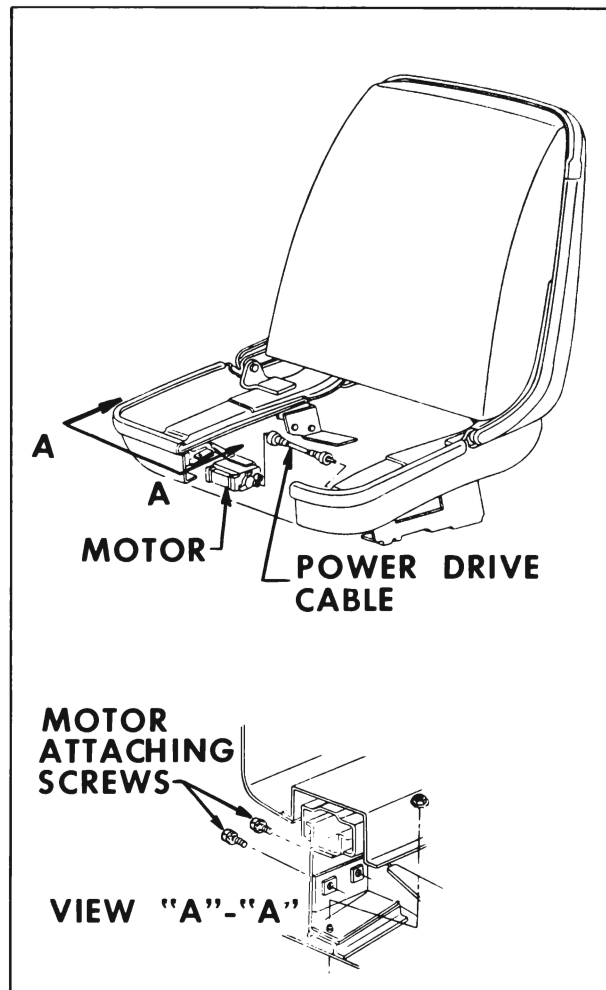

Figure 5-15—Electric Bucket Seat Driver Side
3. Disconnect power drive cable (Figure 5-15) at adjuster gear nut.
2. Remove screws and washers that secure actuator motor to motor support, indicated in View "A-A", Figure 5-15.